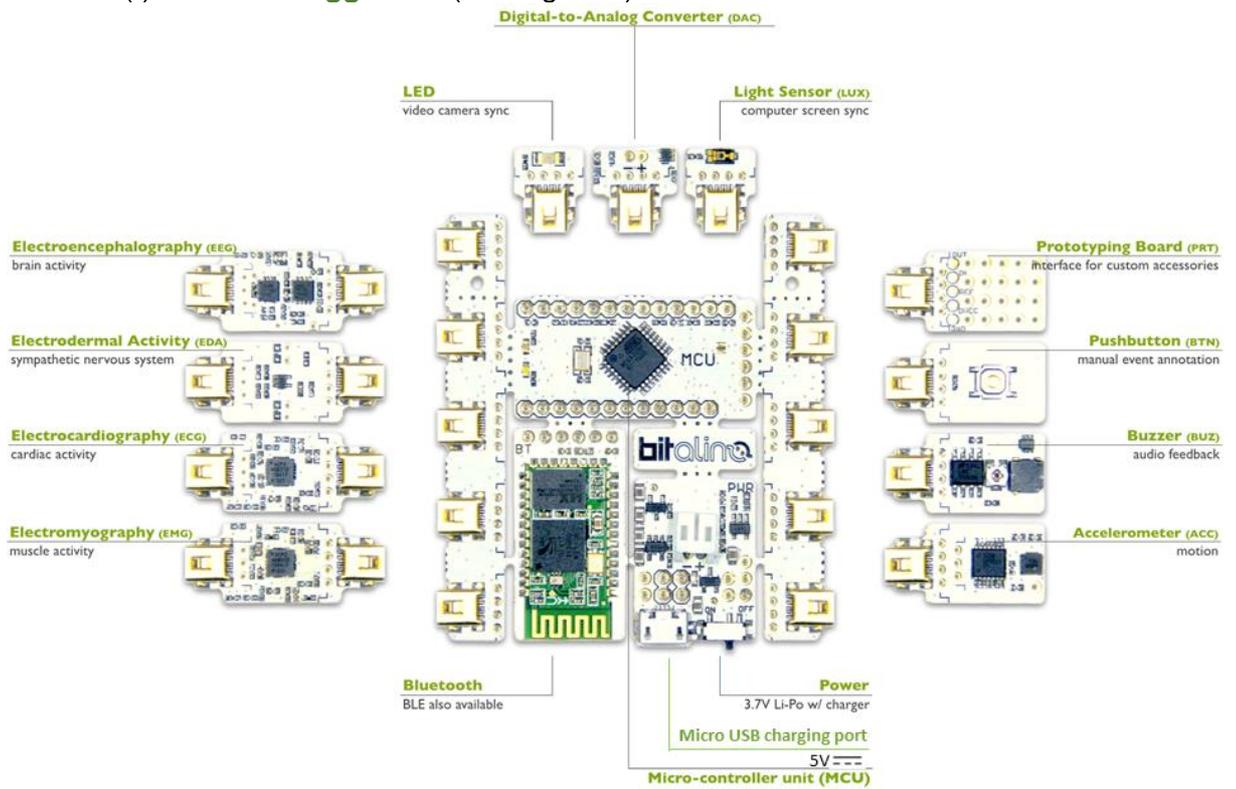

Figure 4: BITalino Plugged kit BT: Components of the “Core” and sensors.
a) BITalino (r)evolution **Plugged BT** (see Figure 4)